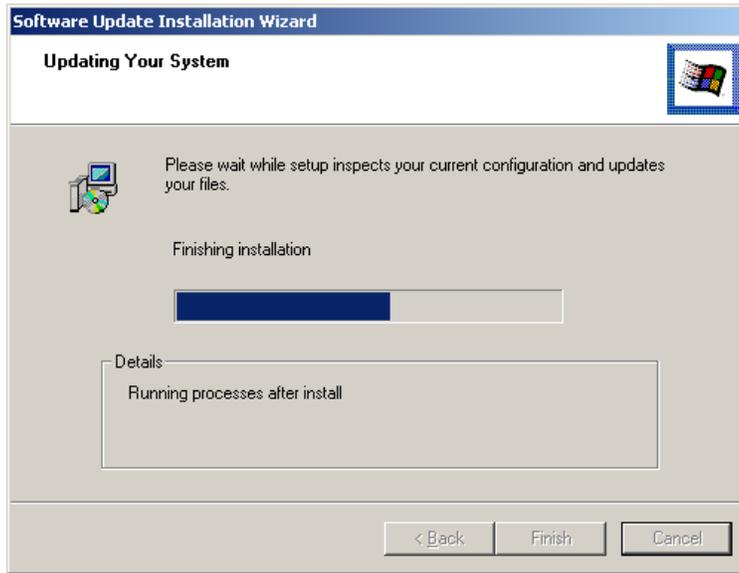

Figure 6-11: Installation Wizard Updates the System
Step 8: The Installation Wizard updates the system as shown in Figure 6-11.